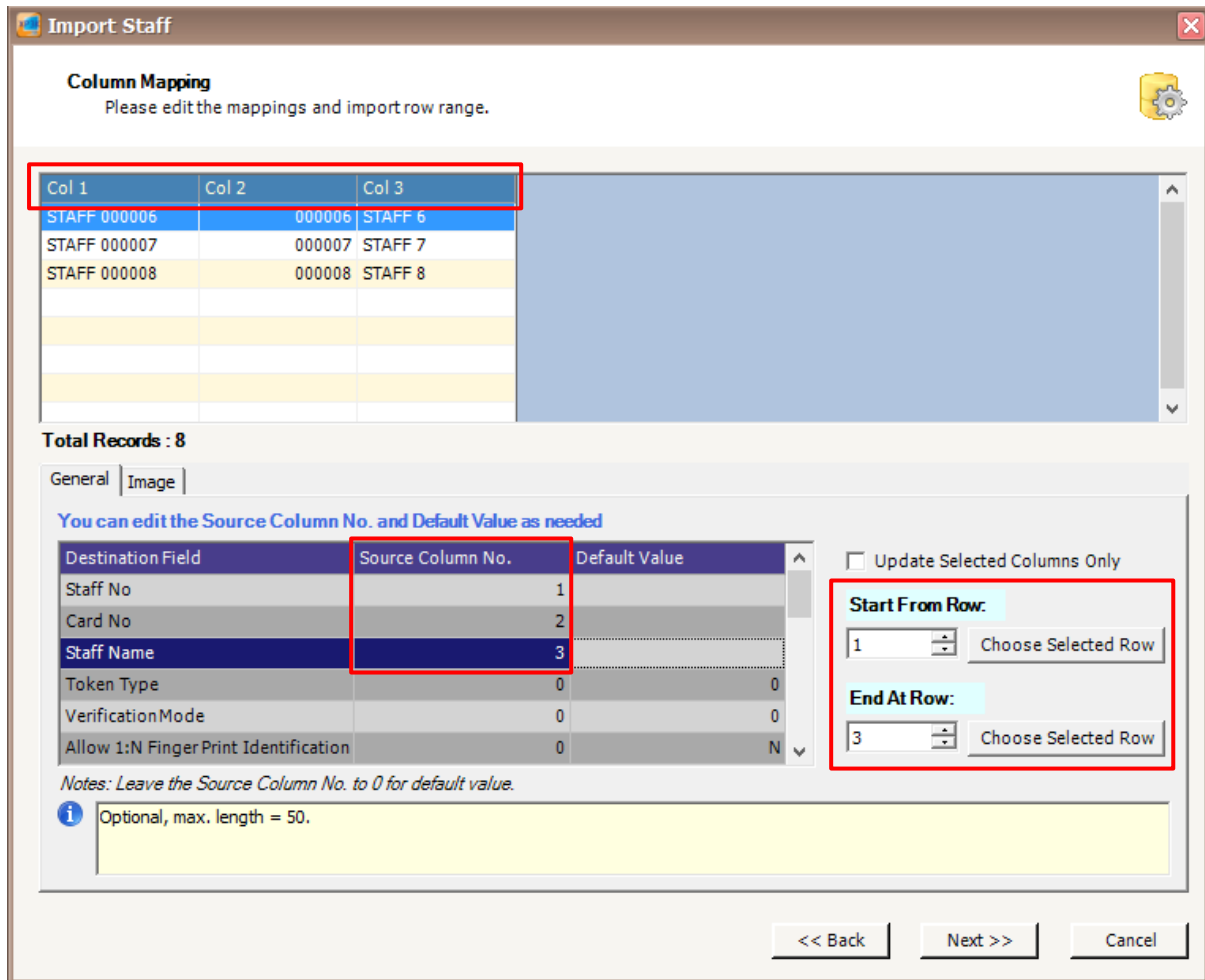

Figure 83 - Import Staff (Column Mapping)
10. The following screen will be shown (Refer **Figure 83**).